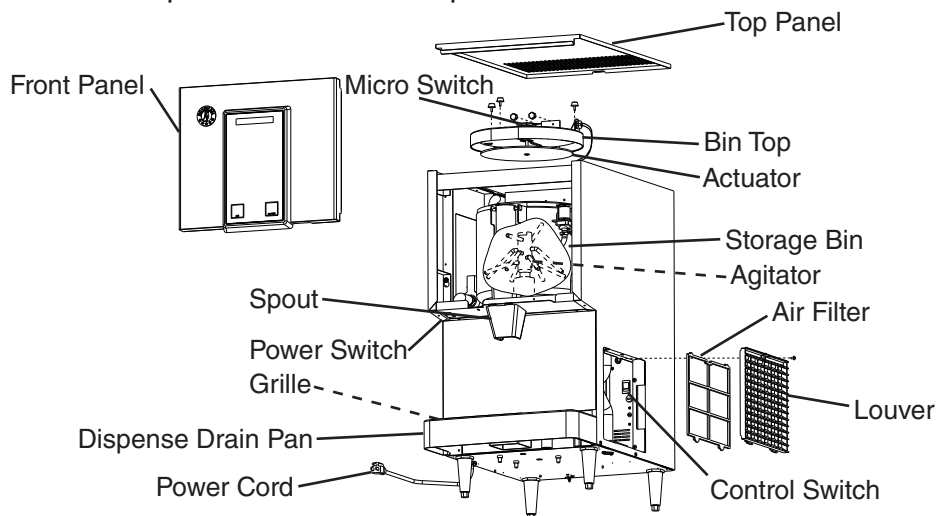

Fig. 6
- 11) Remove the top panel, then remove the bin top. Clean the ice storage bin liner and actuator using a neutral cleaner. See Fig. 6. Rinse thoroughly after cleaning.
- 3) Move the power switch to the "OFF" position, then remove the louver and air filter. See Fig. 6. Move the control switch to the "DRAIN" position, then move the power switch to the "ON" position. Allow the water system to drain completely (you will see the water draining into the drain pan). Move the control switch to the "OFF" position.